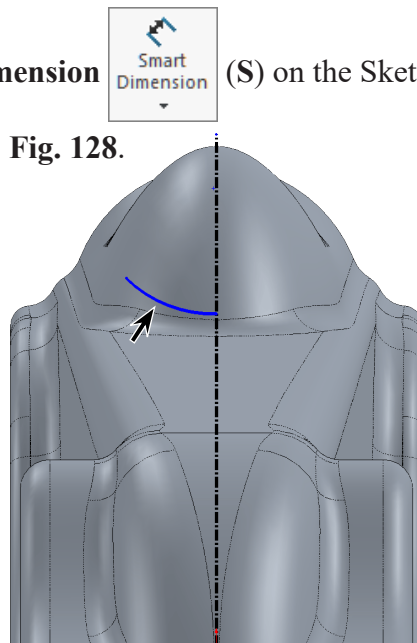
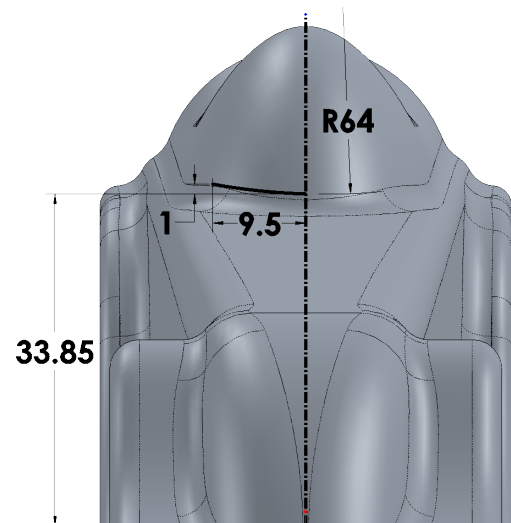

Fig. 127
Fig. 128
Step 6. Click **3 Point Arc**  (S) in the **Arc flyout**  on the Sketch toolbar.
Step 7. Sketch **3 point arc** from centerline out into the cockpit area, **Fig. 127**.
Step 8. Click **Smart Dimension**  (S) on the Sketch toolbar.
Step 9. Add dimensions, **Fig. 128**.